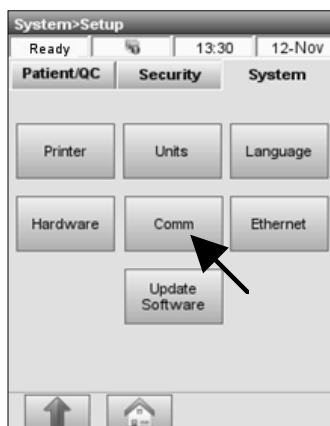

Fig. 3-85 Communications
2. In the **<System Setup>** menu, press the **<System>** tab and then **<Comm>** (Fig. 3-85).